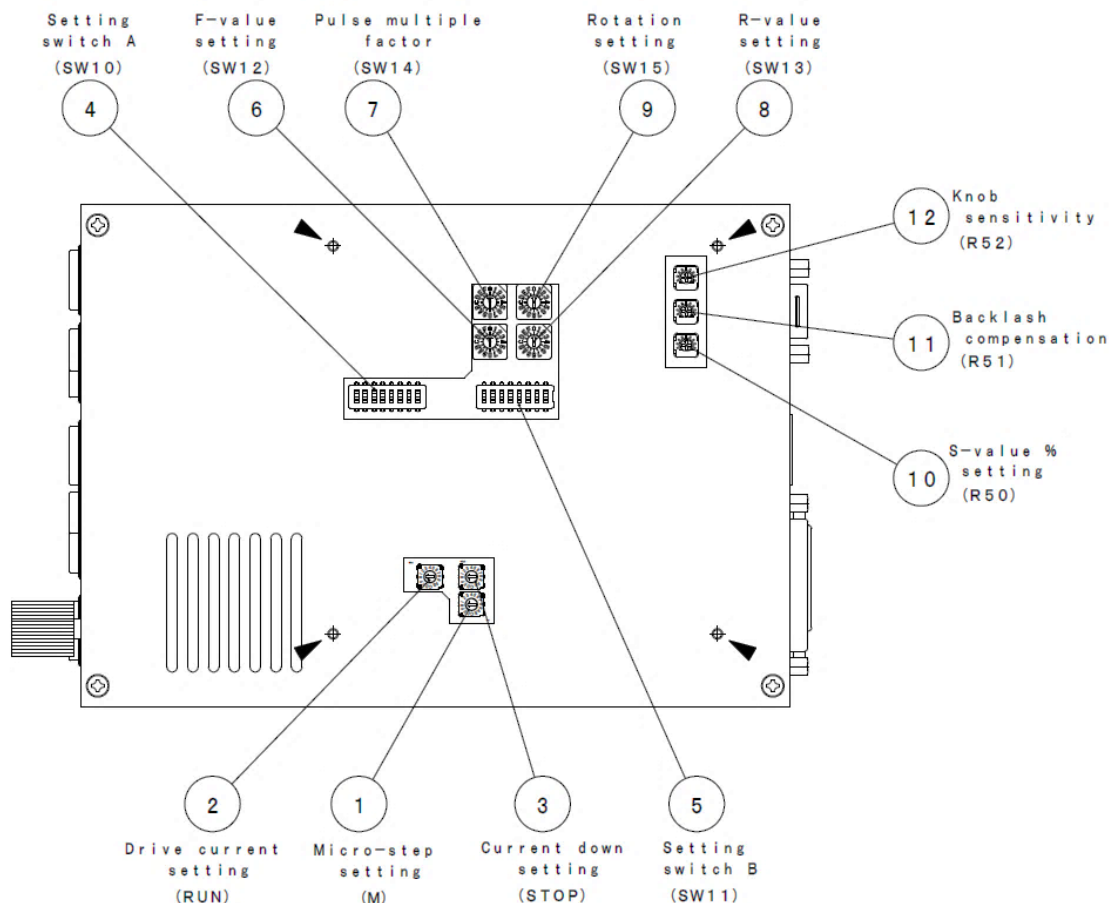

Fig. 3-2-1 Setting Switch Location
The switches can be accessed as shown in Fig. 3-2-1 by removing the panel's (4) screws at bottom of the controller (marked as ►).